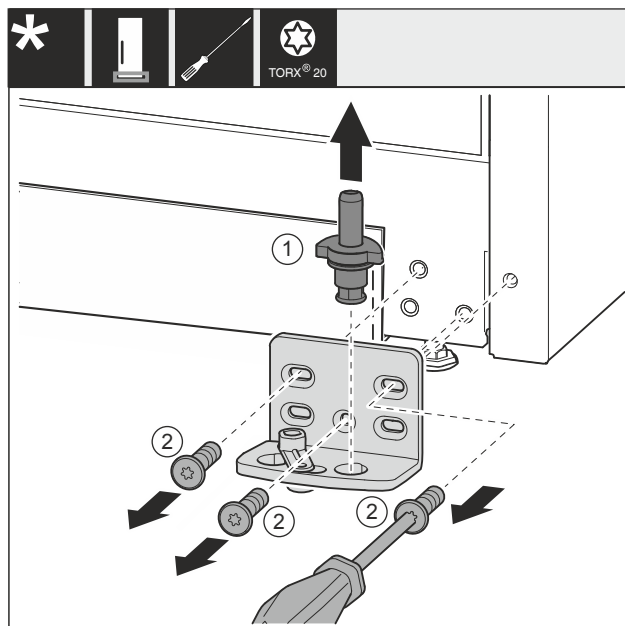

Fig. 34 *
- ▶ Pull the bearing bolt Fig. 34 (1) out upwards completely.*
- ▶ Use screwdriver to unscrew the screws Fig. 34 (2) and remove the swap bearing block.*